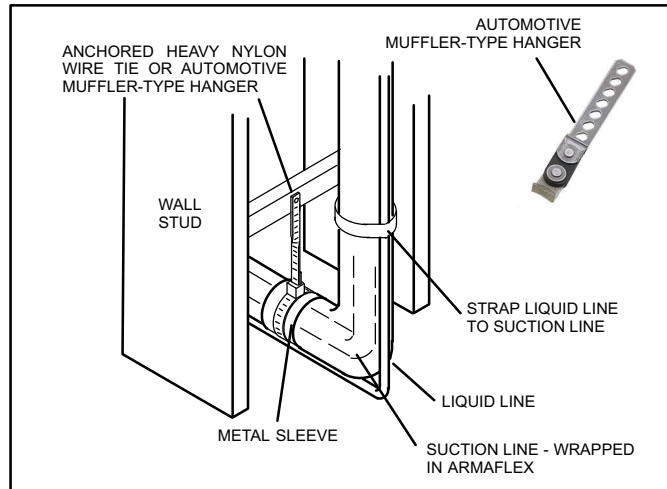

Figure 18. Refrigerant Line Set: Transition from Vertical to Horizontal
- Installation of a **transition from horizontal to vertical** is illustrated in Figure 18.